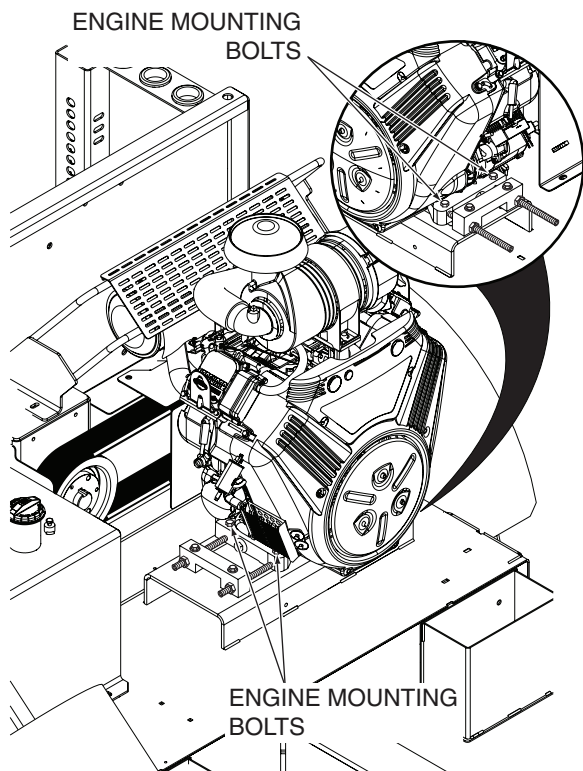

Figure 5-1. Impeller Drive Belt Tension
3. To adjust the impeller drive belt tension, loosen the four engine mounting bolts. See Figure 5-1.